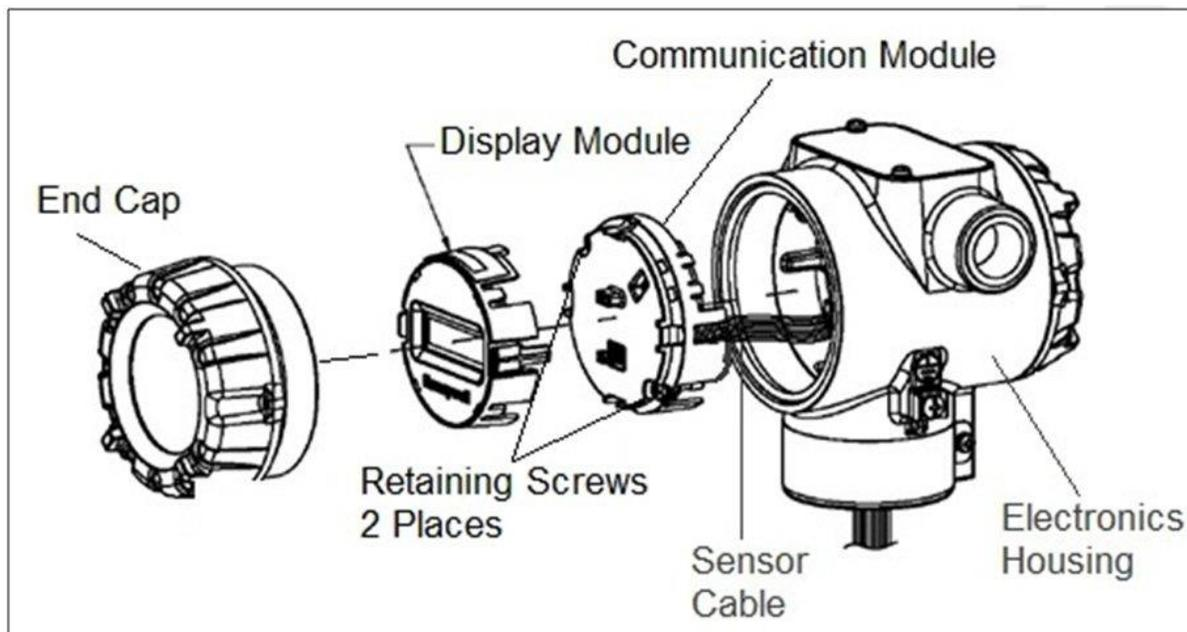

Figure 25 – PWA Replacement
Refer to Figure 25 for parts locations.
16. Install external upgrade label (i.e. DEVICE MODIFIED.....) provided on outside of housing as shown in Figure 25.